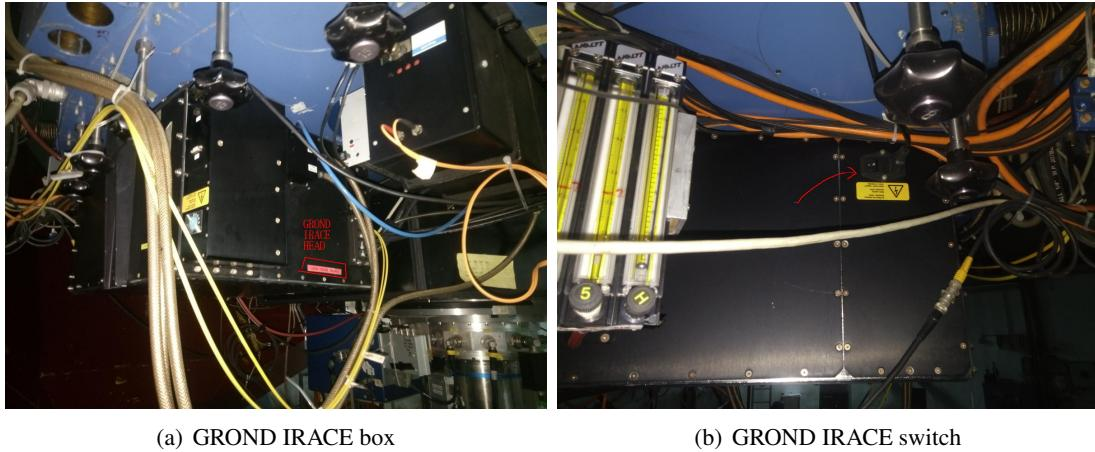

Figure 8.11: The GROND infrared electronics (IRACE) box below the main mirror of the telescope. The power switch is located towards the pier.
5. Locate the power switch of the IRACE box (Fig. 8.11) below the main mirror.